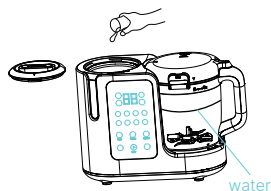

Fig.22
Press the function "  " button to select the Cleaning " **Clean** " function. The cleaning " **Clean** " icon will turn on, while all other icons will turn off. The display will show a constant 10 (adjustable between 1-10 mins), as shown in Fig.22. The countdown will begin, and the motor will run for 30 seconds, then the heating cup will start heating. When the display counts down to 01, heating will stop, and the motor will resume operation. When the display shows 00, stirring will end, and the stirring icon will turn off. 5 beeps signal completion, after which, the product will automatically return to standby mode.
3. Remove the blending blade seat from the blending cup and take off the sealing ring (see Fig.22).